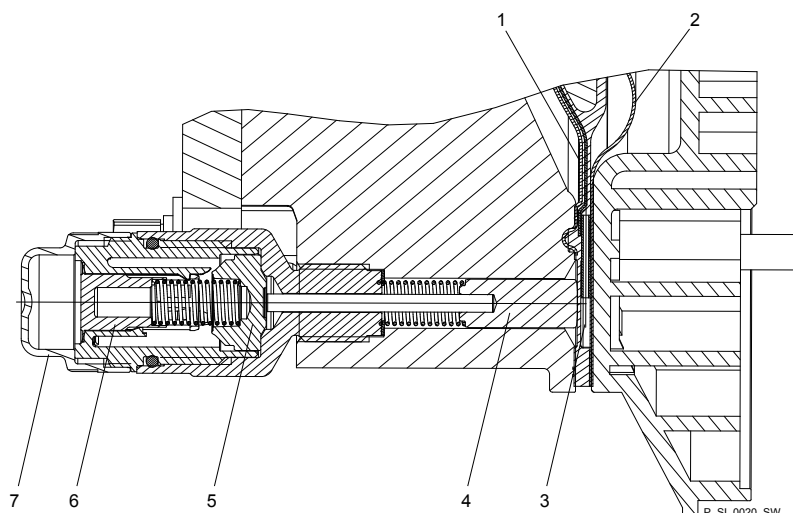

Fig. 36: Section through the Sigma diaphragm rupture warning system ("Visual break indicator" version)
2. ➔ If the piston of the diaphragm rupture sensor - see Fig. 36, item 4 - should have become dirty or damp, clean both it and the hole in which it runs.